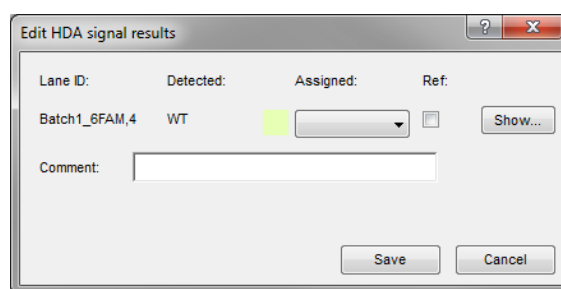

Figure 4.4: The *Edit HDA signal results* dialog box.
- 6.5 Click on a target cell and press **Enter** (or **HDA > Edit signal**) to call the *Edit HDA signal results* dialog box (see Figure 4.4).